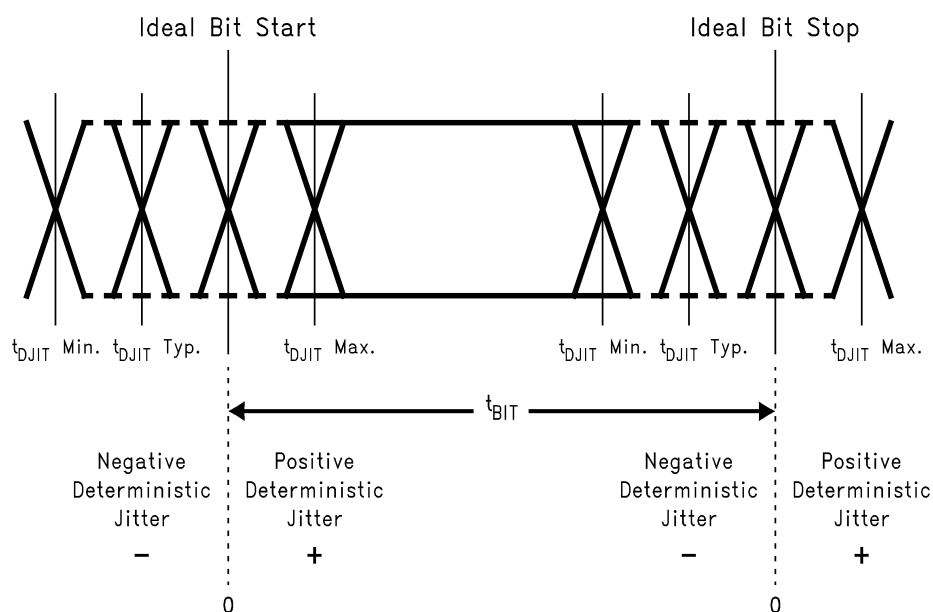

Figure 9. Deterministic Jitter and Ideal Bit Position
(4) t_{RJIT} specification is the rms jitter measurement of the serializer output when the device is transmitting SYNC pattern.
(5) t_{DJIT} specification is measured with the serializer output transmitting PRBS pattern from the internal BIST mode. It is a measurement of the center distribution of 0V (differential) crossing in comparison with the ideal bit position. See Figure 9